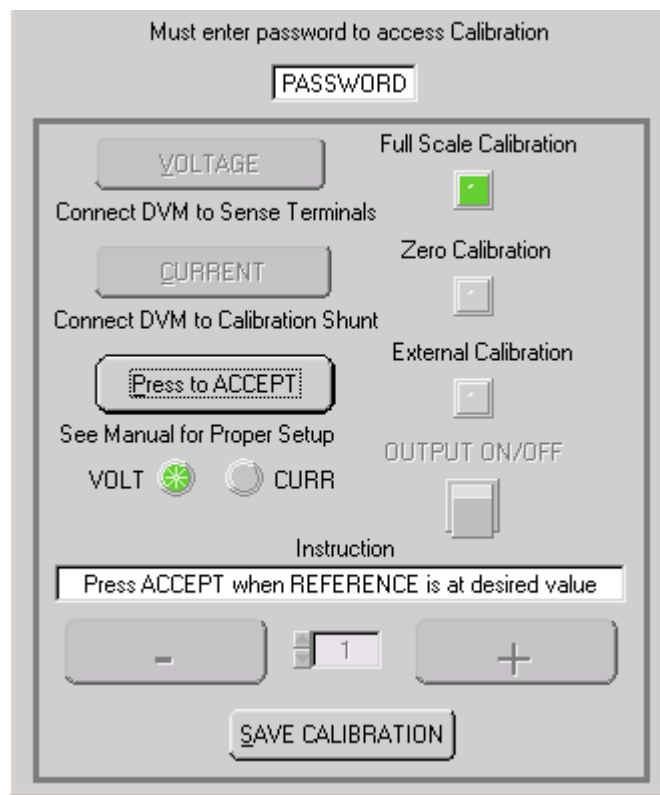

FIGURE 4-4. ANALOG REFERENCE CALIBRATION WINDOW
1. Click the **ANALOG REF** button on the Calibration Window; the Analog Reference Calibration Window (Figure 4-4) appears and the status display on the VXI main panel reads **INPV**. When the reference voltage is at the desired value, click the **PRESS TO ACCEPT** button to accept the value. When the calibration is saved, this analog voltage will be equivalent to full scale output voltage.